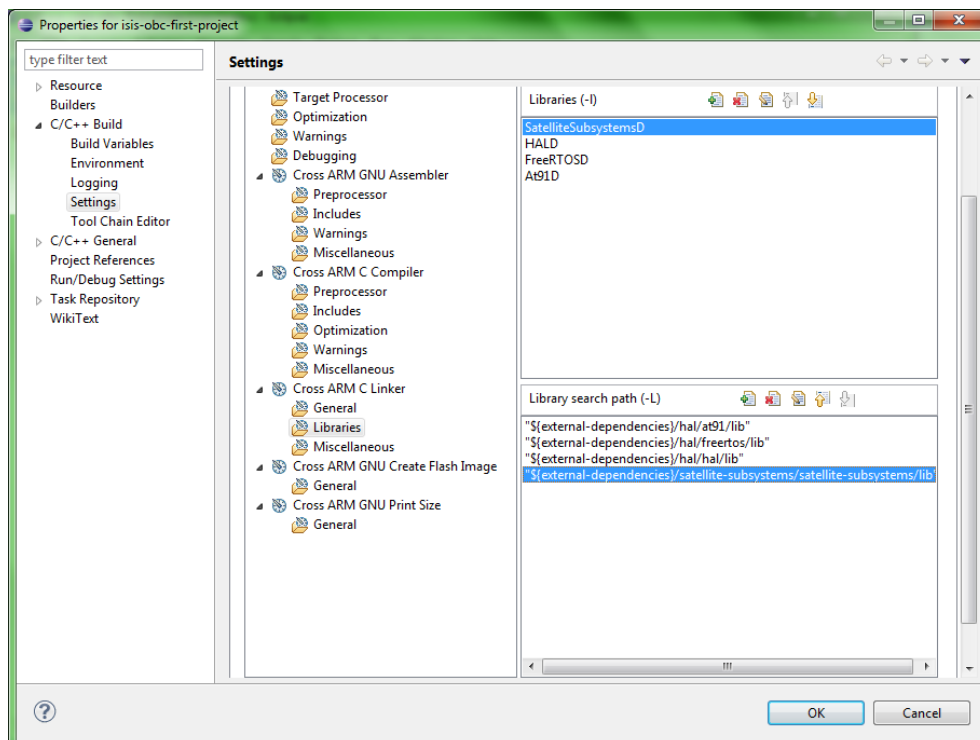

Figure 18 - Add the library to the linker settings
3. Add the library to the linker settings: Select **Cross ARM C Linker > Libraries**. Add the library name with a capital D at the end to the **Libraries** list. Add the path to the **lib** directory to the **Library search path** list. See Figure 18.